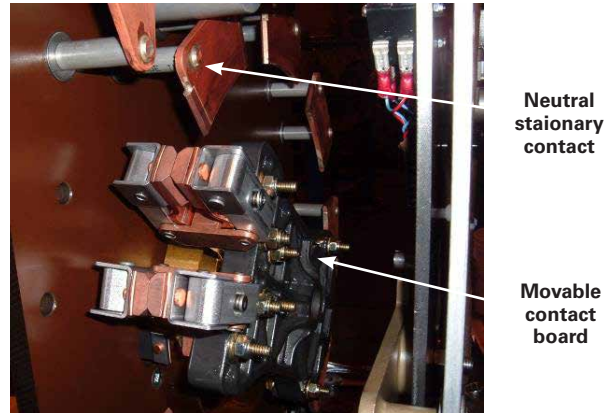

Figure 8.
9. Slide the movable contacts counter clockwise off the neutral stationary contact into the open space created by the removal of the 1 raise stationary contact. Disengage the ring contacts from the rings by pulling the movable contact board toward the steel panel. Remove the movable contact board. See Figures 8 and 9.